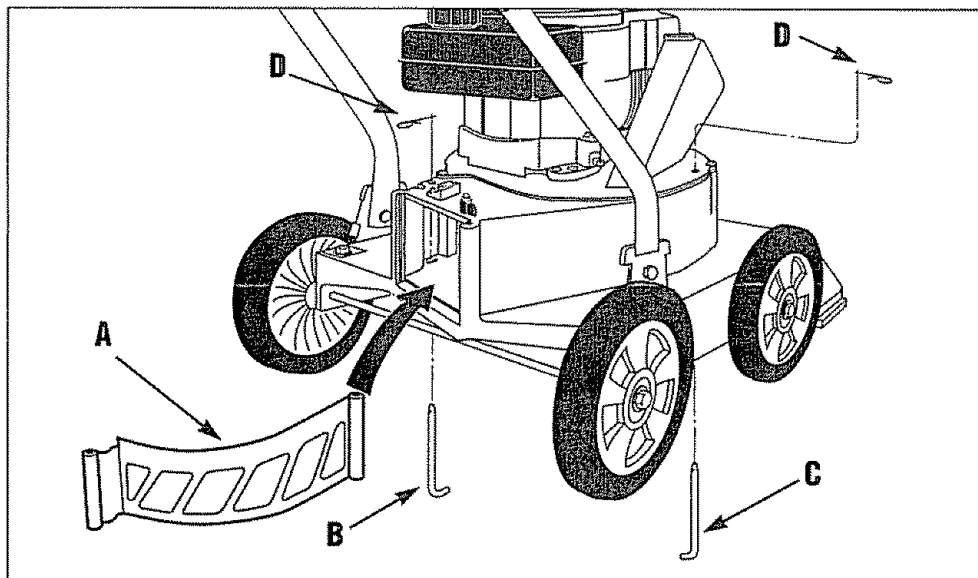

Figure 3: Shredder screen installation.
A shredder screen (A, Figure 3) is factory-installed inside the processing chamber. Vacuumed or chipped material passes through the slots in the screen before it is discharged. The screen produces up to an 8:1 reduction of material.
2. To remove rear rod (B, Figure 3), remove the collection bag or the blower deflector (if installed). Then, remove the hair pin clip (D) and pull the rod out through the bottom of the deck.
3. Use sturdy supports to prop up the right side of the machine a few inches. Then, remove the hair pin clip (D) and pull the front rod (C) out through the bottom of the deck.
4. Pull the screen (A) out of the discharge opening. Re-install the rods and hair pin clips on the screen for safe-keeping.
2. Remove the collection bag. Remove the rods and hair pin clips which were stored on the shredder screen. Insert the screen (A) into the processing chamber with the flat, angled end facing to the rear and the curve in the screen facing to the right. See Figure 3. Align mounting holes in screen with the holes in deck.
3. Using sturdy supports, prop up the right side of the machine a few inches. Insert front rod (C) up through bottom of deck, into screen mounting hole, and out through the top of the deck. Test that the rod is through the screen by pulling on the screen – the screen should not move. Secure rod with hair pin clip (D).
4. Insert rear rod (B) up through bottom of deck, into the screen mounting hole, and out through the top of the deck. Make sure that the rod is in the screen by trying to move the screen from side to side. Secure the rod with the hair pin clip (D).